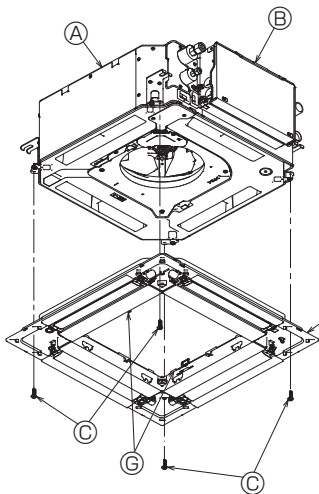

Fig. 5-7
- Secure the grille by tightening the four screws. (Fig. 5-7)